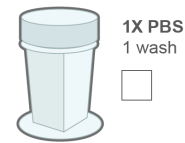

Figure 83: 1X PBS Wash
5. Following nuclear stain incubation, **wash slides for 5 minutes in 1X PBS** (Figure 83).